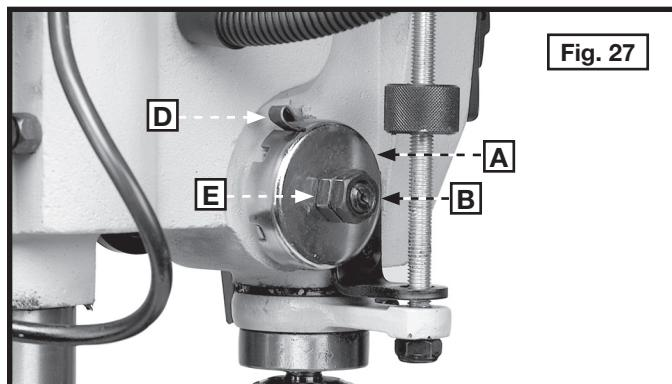

Fig. 27
1. Loosen the nuts (B) and (E) Fig. 27. Ensure that the spring housing (A) stays engaged with head casting.
2. While **FIRMLY HOLDING** the spring housing (A) Fig. 27, pull out the housing and rotate it until the boss (D) is engaged with the next notch on the housing. Turn the housing counter-clockwise to increase or clockwise to decrease spring tension. Turn the nut (E) until it contacts the spring housing (A), then back the nut (E) out a 1/4 turn from the spring housing (A). Tighten the nut (B) against the nut (E), to hold the housing in place.